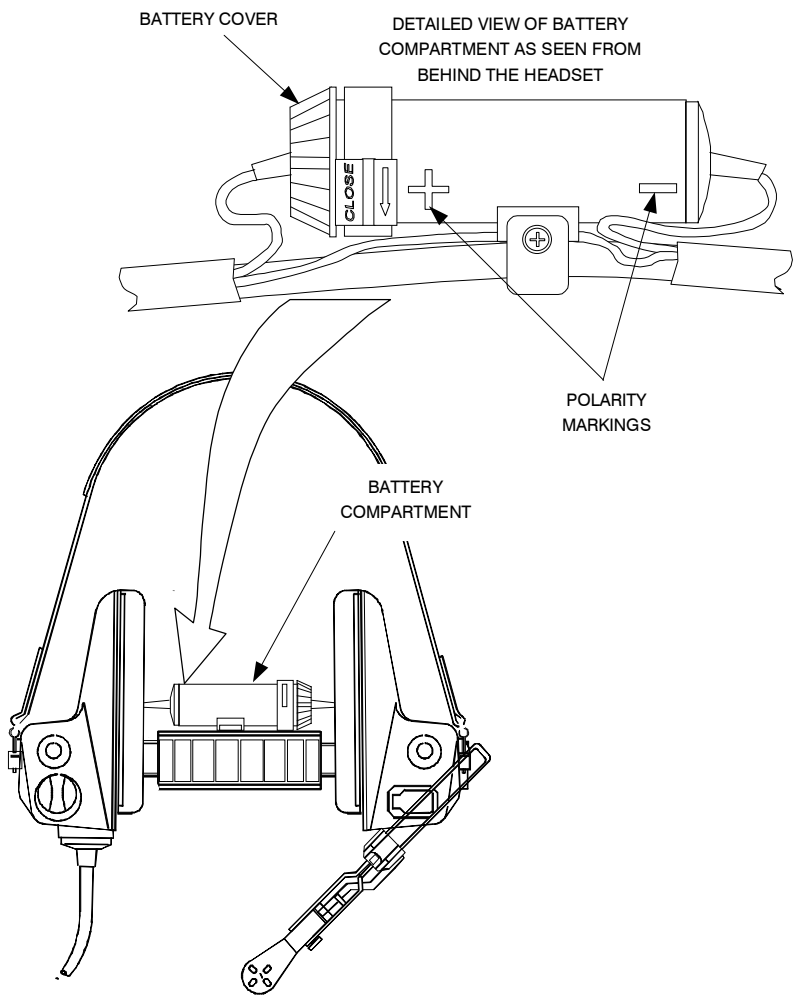

Figure 3-2. Details of ACAPS Battery Compartment
1. Rotate battery cover counterclockwise and remove. (See Figure 3-2.)